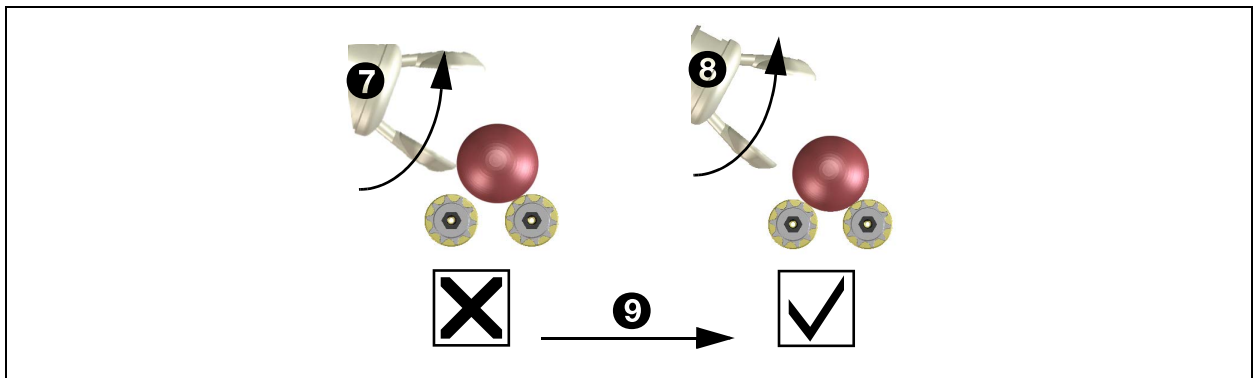

Fig. 73 - Transfer of large egg
When the egg is transferred by the carrier it must not be pushed away (7) by the carrier but be guided (8). See fig. 73.